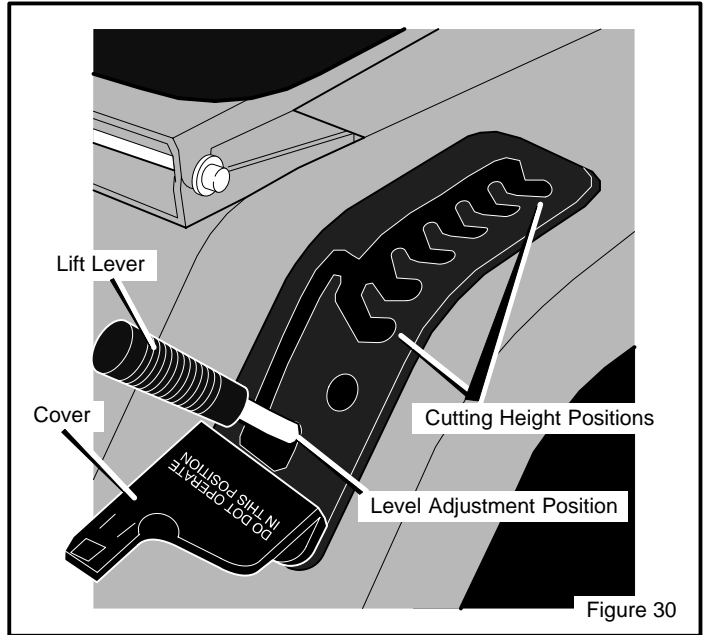

Figure 30
5. Move the **lift lever** to the LEVEL ADJUSTMENT position (Figure 30).